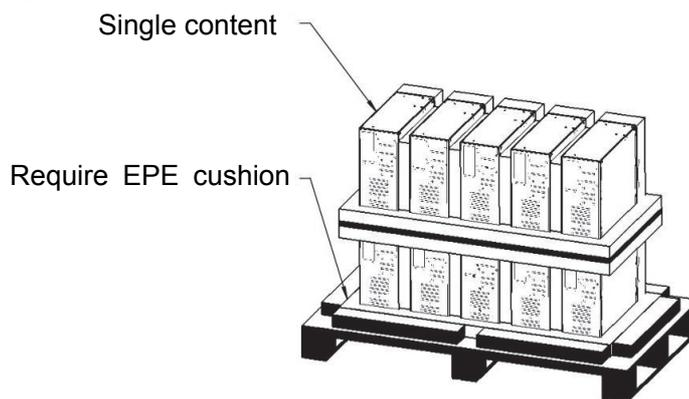

Fig. 6-1 The split components of the MVD are laid on the wooden pallet
- With respect to the split components of the MVD (power cell and cooling fans, etc.), PE film packaging shall be implemented firstly with montmorillonite desiccant, and then each item shall be moved to the pallet manually or by means of hydraulic forklift. With respect to the items requiring EPE shock absorption requirements, an EPE cushion shall be laid on the surface of the pallet before the single content is laid one by one, as shown in Fig. 6-1;